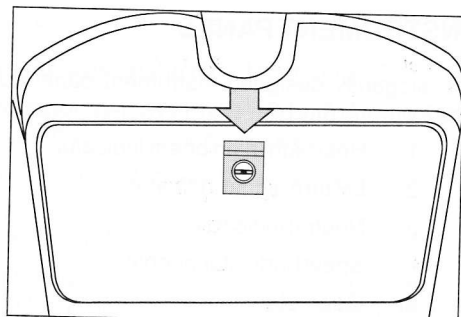

Fig. 12
**Glove compartment lock :** To open the glove compartment, insert the key into the lock and rotate anti-clockwise till the end and then press the lock downwards (fig 12).